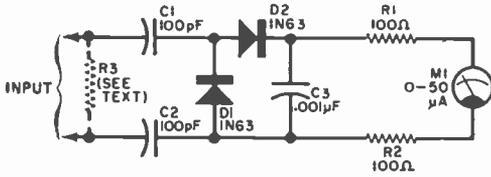

Fig. 1. Values shown for C1, C2 and C3 are for frequencies up to about 3 MHz. For higher frequencies, smaller value capacitors are required.
Using the terminal screws that come with the meter, secure the circuit board to the back of the meter housing with  $\frac{1}{4}$ " spacers between the two surfaces to isolate the board from the meter. Complete the rest of the point-to-point wiring, following the schematic (Fig. 1). Now install the battery.
Fig. 1. Reverse voltage is applied alternately across the emitter-base junction of the transistor under test by the combined action of diodes D1 and D2 on the a.c. voltage from the transformer. Transistor Q1 acts as a current limiter. Potentiometer R4 can be adjusted to limit maximum current flow to a predetermined value. Zener diodes and other diodes as well as neon lamps can be checked out with this adapter. Output voltages are fed to an oscilloscope for interpretation.
As shown in Fig. 1, switches S2, S3, and S4 are in the PNP position, and the anodes of diodes D1 and D2 are connected to the emitter and collector test jacks respectively. The base test jack is returned to ground through current sampling resistor R5.
**The Circuit.** The "R.F. Sniffer" circuit shown in Fig. 1 is a voltage doubler type of detector, formed by capacitors  $C1$  and  $C2$  and diodes  $D1$  and  $D2$ . This type of circuit provides almost twice as much sensitivity as would be obtained from a single-diode detector.
point-contact type diodes for D1 and D2. In applications where the frequency is higher than about 3 MHz, the values for C1, C2 and C3 should be considerably smaller than shown in Fig. 1.
**How It Works.** Figure 1 shows the circuit diagram for the converter. Resistors  $R1$  through  $R4$  comprise a 10-megohm voltage divider used for range selection. The N-channel field-effect transistor (FET),  $Q1$ , in a source-follower configuration isolated by  $R5$ , acts like a high-impedance to low-impedance matching device, and also forms one leg of a bridge circuit.
Fig. 1. High-impedance characteristic of field effect transistor permits 10-megohm voltage divider to come between the circuit under test and a VOM. Divider sets up 4 voltage ranges from 0.5 volt to 500 volts.
**How It Works.** The circuit (Fig. 1) consists essentially of a two-stage, high-gain squaring amplifier ( $Q1$  and  $Q2$ ), a regenerative switch ( $Q3$  and  $Q4$ ), a
Fig. 1. When calibrating the individual ranges of the audio frequency meter, alternately replace  $R9$ ,  $R10$ , and  $R11$  with a suitable potentiometer and adjust for the required optimum indication. Replace the pot with an equivalent  $\frac{1}{2}$ -watt resistor. Similarly, adjust  $R6$  until the voltage at point A measures exactly twice the voltage at point B.